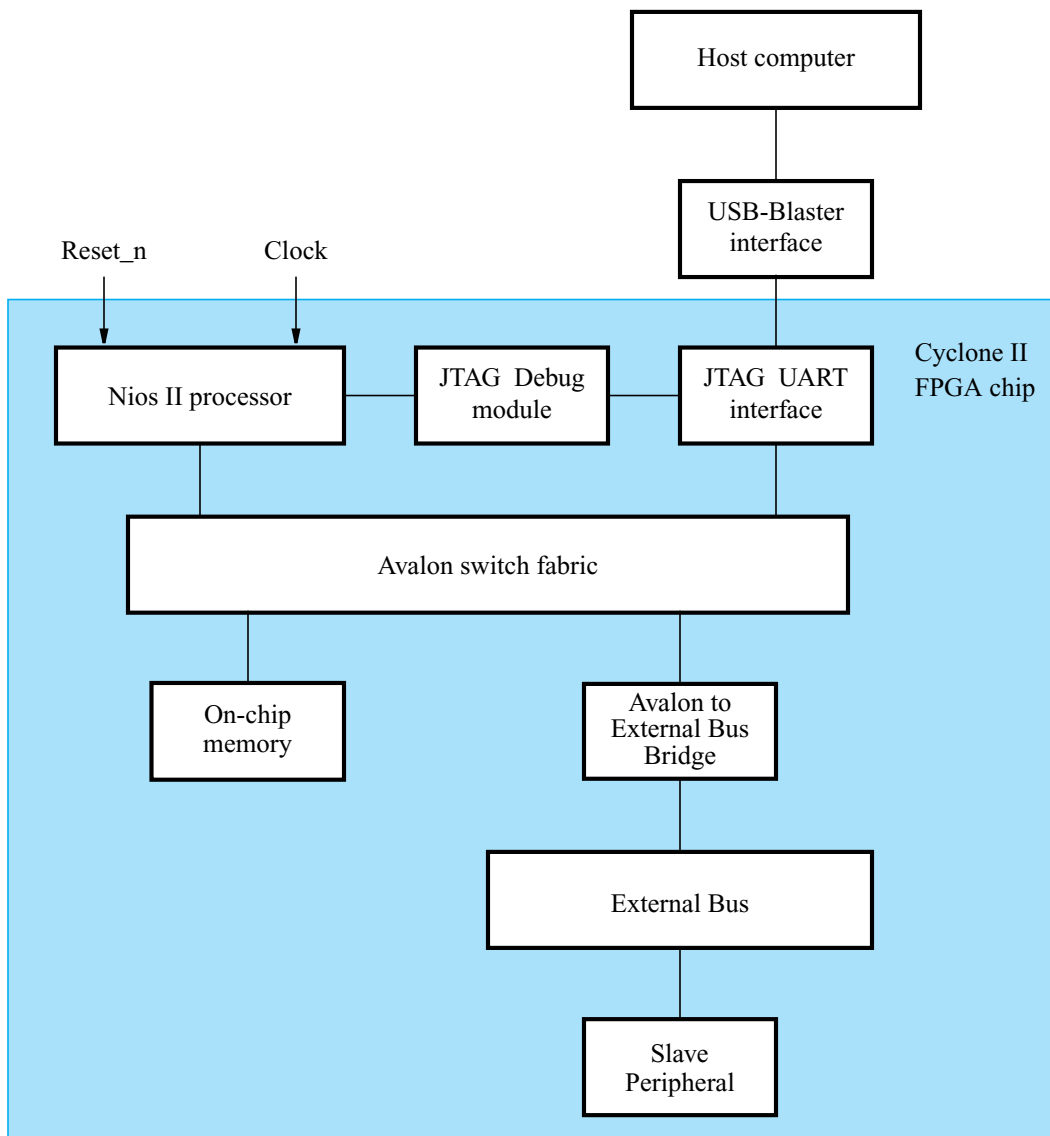
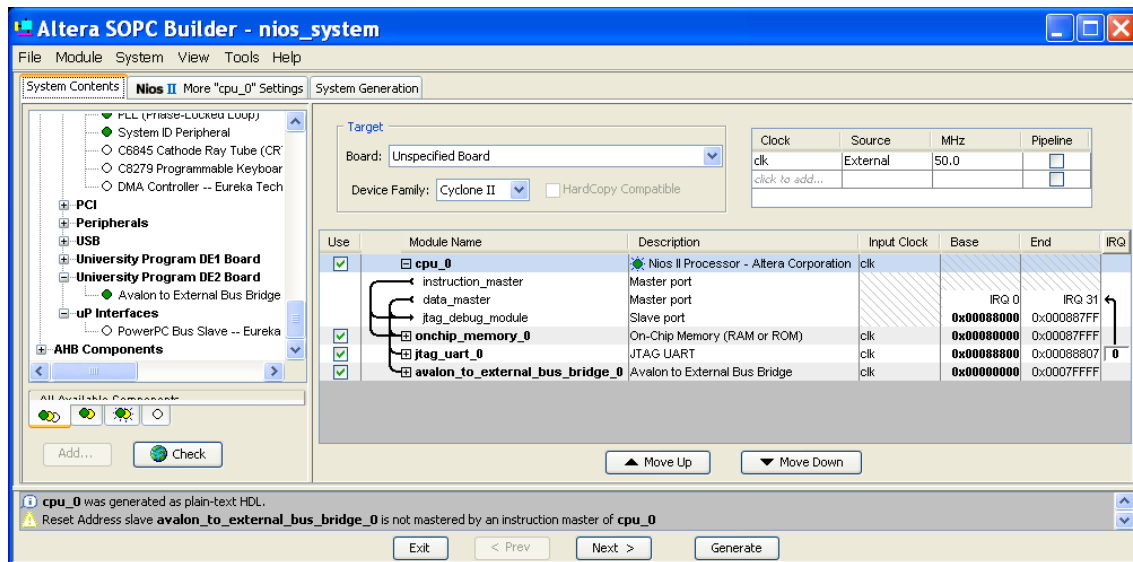

Figure 2. The desired Nios II system
Figure 3. The Nios II system specified in the SOPC Builder.
Figure 2 indicates the system that we wish to design and implement. The part of the system that consists of a Nios II/s processor, a JTAG UART, an on-chip memory block and an Avalon to External Bus Bridge can be generated using the SOPC Builder. This should produce the system given in Figure 3. The slave peripheral will be a Verilog/VHDL module which you will design. The Avalon to External Bus Bridge connects the previously discussed external bus to the Avalon Switch Fabric of the Nios II system. The switch fabric is the main interconnection network for peripherals in a system generated by the SOPC Builder.
Once the system in Figure 3 has been generated, modify the Verilog/VHDL module, Peripheral_on_External_Bus to connect it to the Avalon to External Bus Bridge signals. Also, modify this module such that it contains four
16-bit registers. Each of these registers should be mapped to one quarter of the address space assigned to the Avalon to External Bus Bridge by the SOPC Builder. Use the 7-segment displays *HEX3 – 0* to display the contents of these registers. Since only one register can be displayed at one time on the 7-segment displays, use two toggle switches, *SW₁* and *SW₀*, to choose which register to display. These modules, in addition to the modules generated by the SOPC Builder, should implement the desired system in Figure 2.
4. From the **System** menu, select **Auto-Assign Base Addresses**. You should now have the system shown in Figure 3.
1. Create a new project called *Lab5_Part2*. Use the same SOPC Builder project settings as in Part 1 of this exercise, and generate a Nios II system that corresponds to Figure 3.
2. Use the SOPC Builder to generate the system in Figure 3, but choose the address range of 1024 Kbytes for the Avalon to External Bus Bridge component. Note that this will change the base addresses that the SOPC Builder will auto-assign to the components of the system.